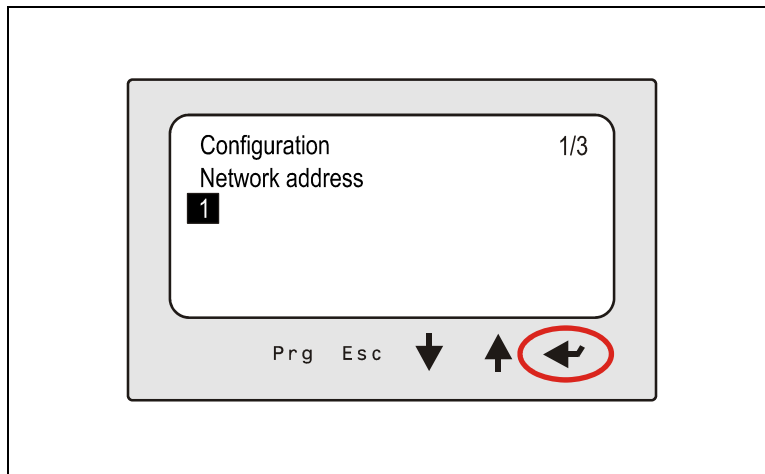

Figure 10 - Confirming the New Parameter Value
15. Press **Enter** to confirm and save the new value (*Figure 10*).